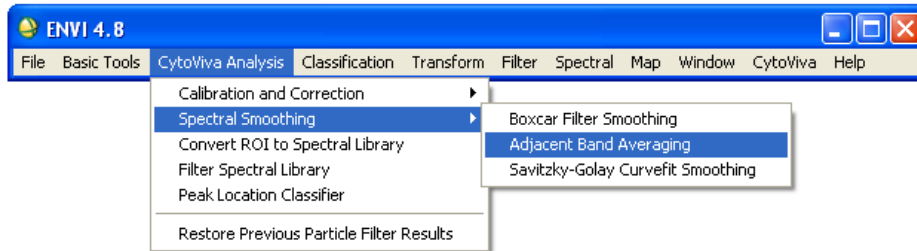

Figure 11f: CytoViva Analysis Tab
- In the tool bar, click the CytoViva Analysis tab, click Spectral Smoothing, and then select the Adjacent Bands Averaging (Figure 11f).